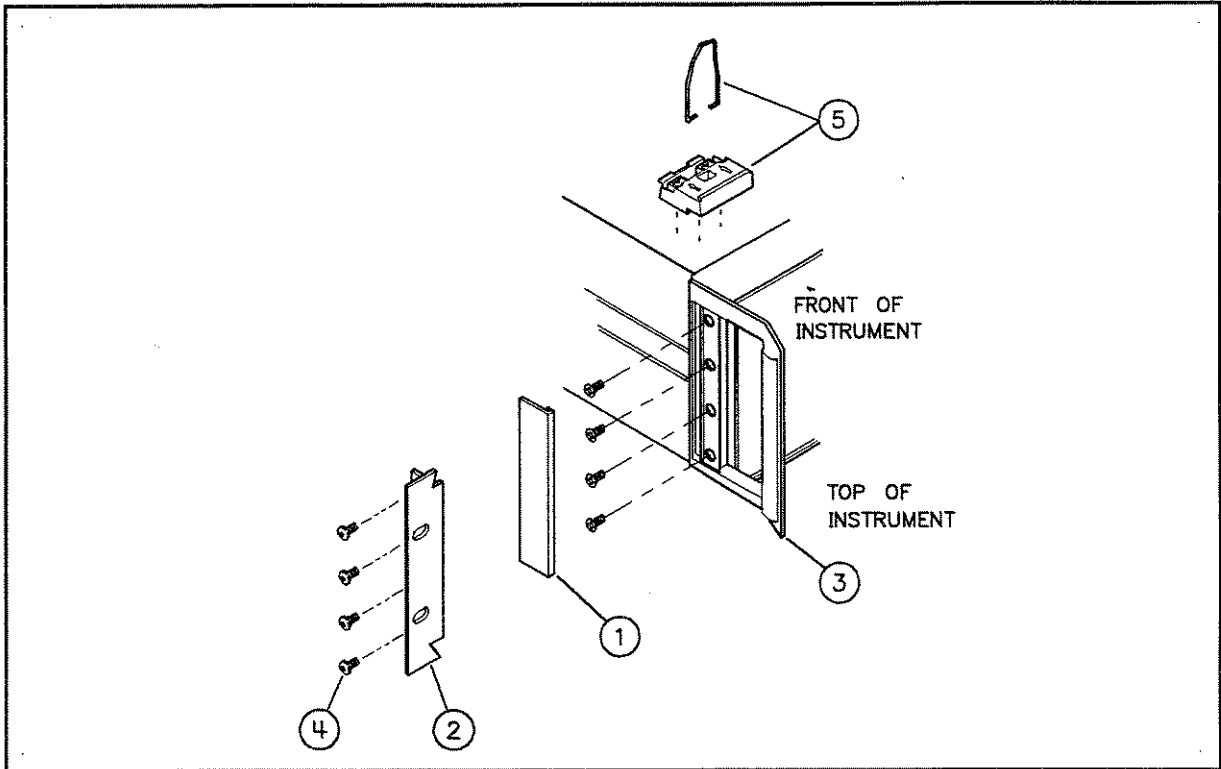

Figure 2-4. Rack Mounting the Analyzer
1. Refer to Figure 2-4.
2. Remove each front handle trim ①:
3. Remove four screws ④ and one front handle assembly ③ per side.
4. Attach one rack mount flange ② with four panhead screws ④ per side.
5. Remove the feet and tilt stands ⑤.
4. Attach one rack mount flange ② and one front handle assembly ③ with four panhead screws ④ per side.